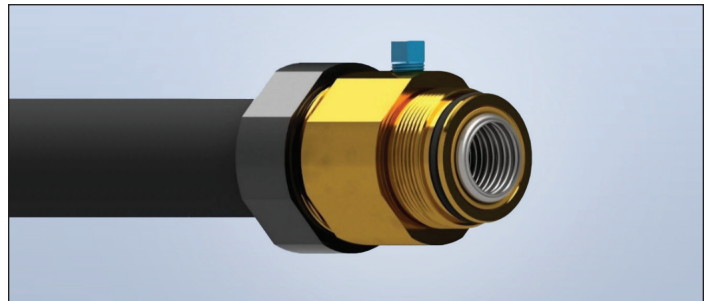

Figure: 1-8
10. Slide the Flange Body assembly forward to trap the Split Rings (Figure 1-8).